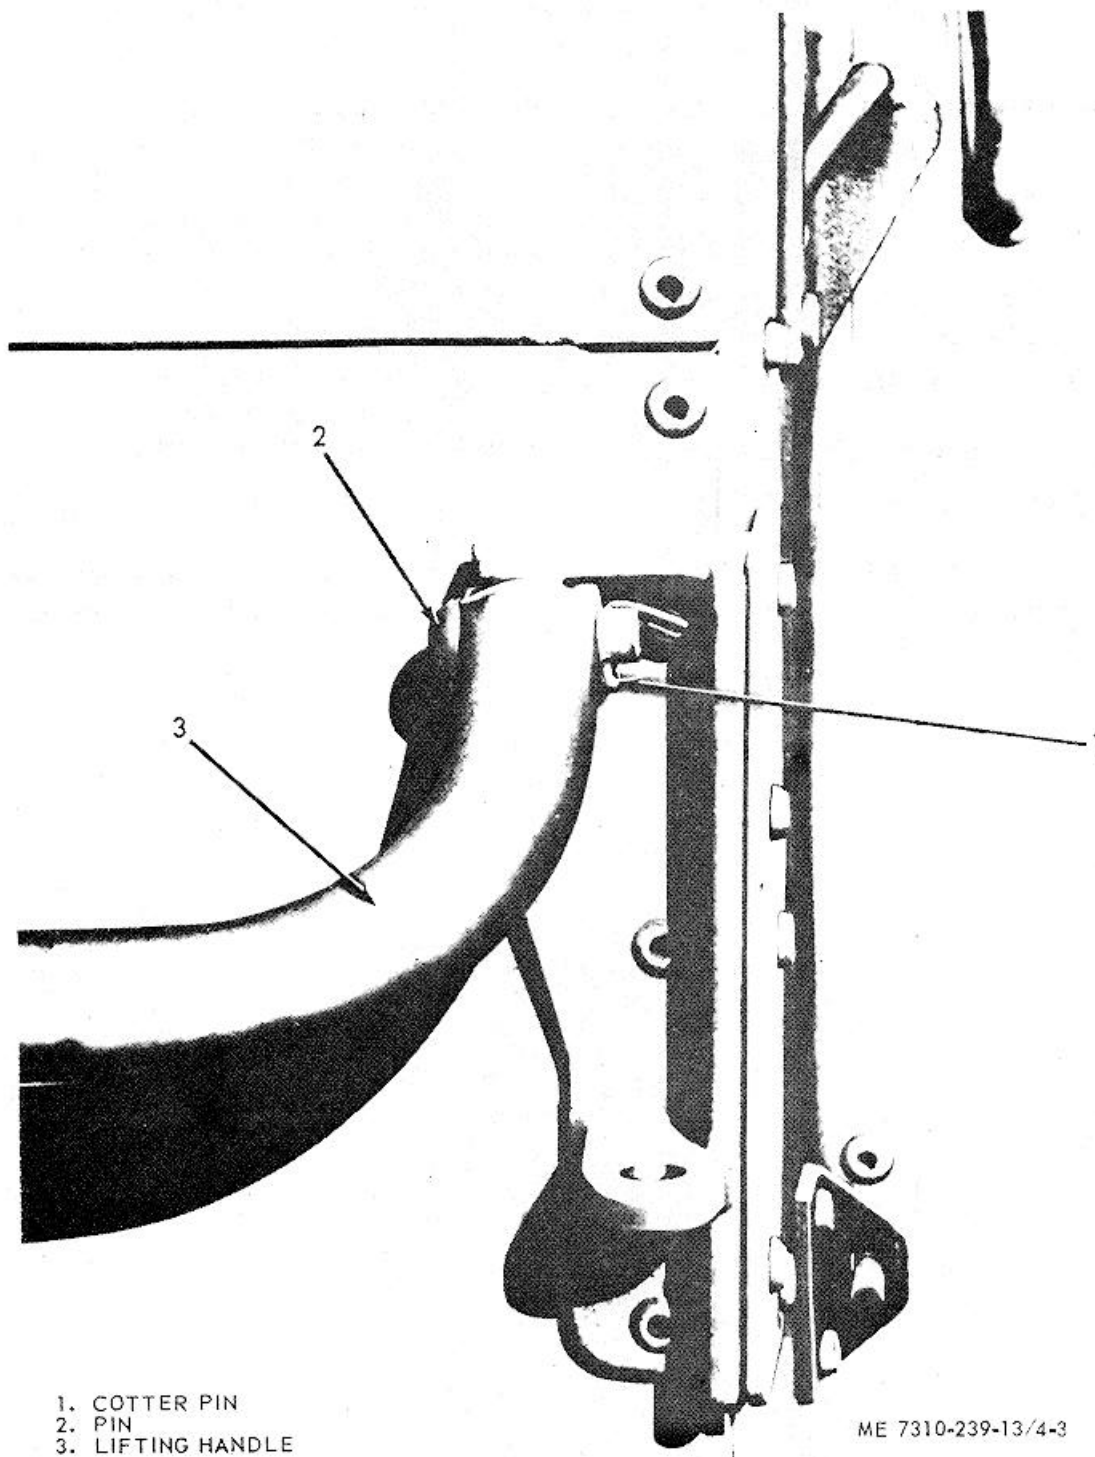

Figure 4-3. Lifting handles, removal and installation.
*b. Removal.* Remove cotter pin (1, fig. 4-3) from lifting handle pin (2). Pull lifting hand pin out of lifting handle (3).